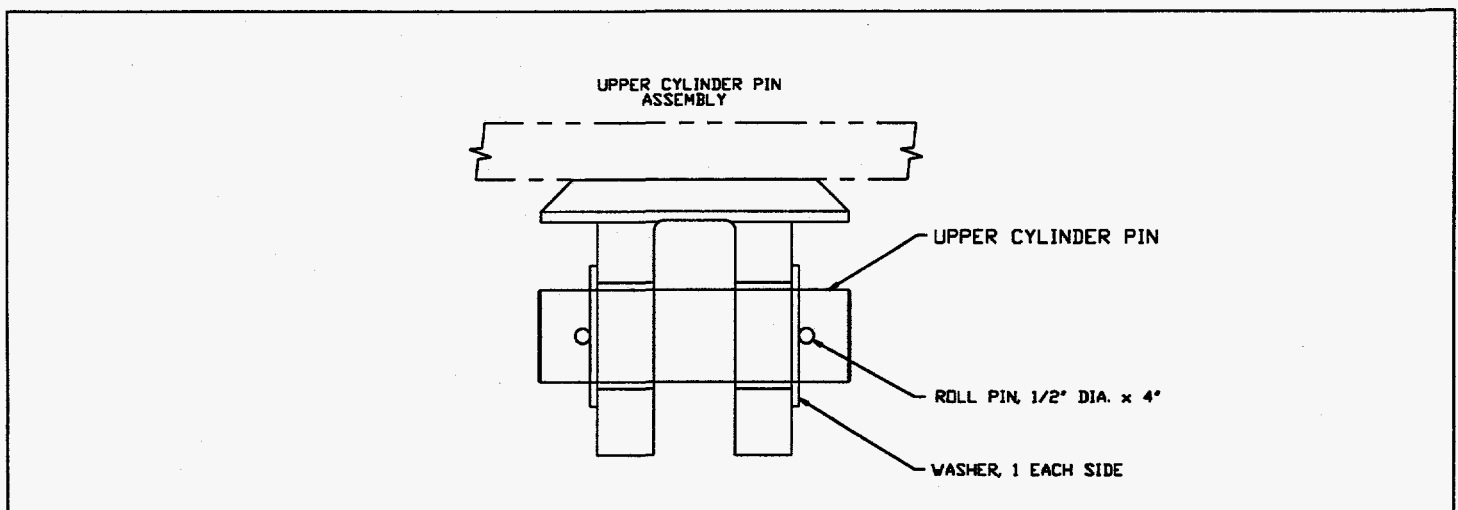

FIGURE 10, UPPER CYLINDER PIN
- 3 Remove the upper cylinder pin by first removing the roll pins and tapping with a rubber mallet (Figure 10, page 22).
- 5 Position the cylinder so the top pin bore and clevis bore are aligned. Insert the upper pivot pin, washers and new roll pins (Figure 10, page 22).